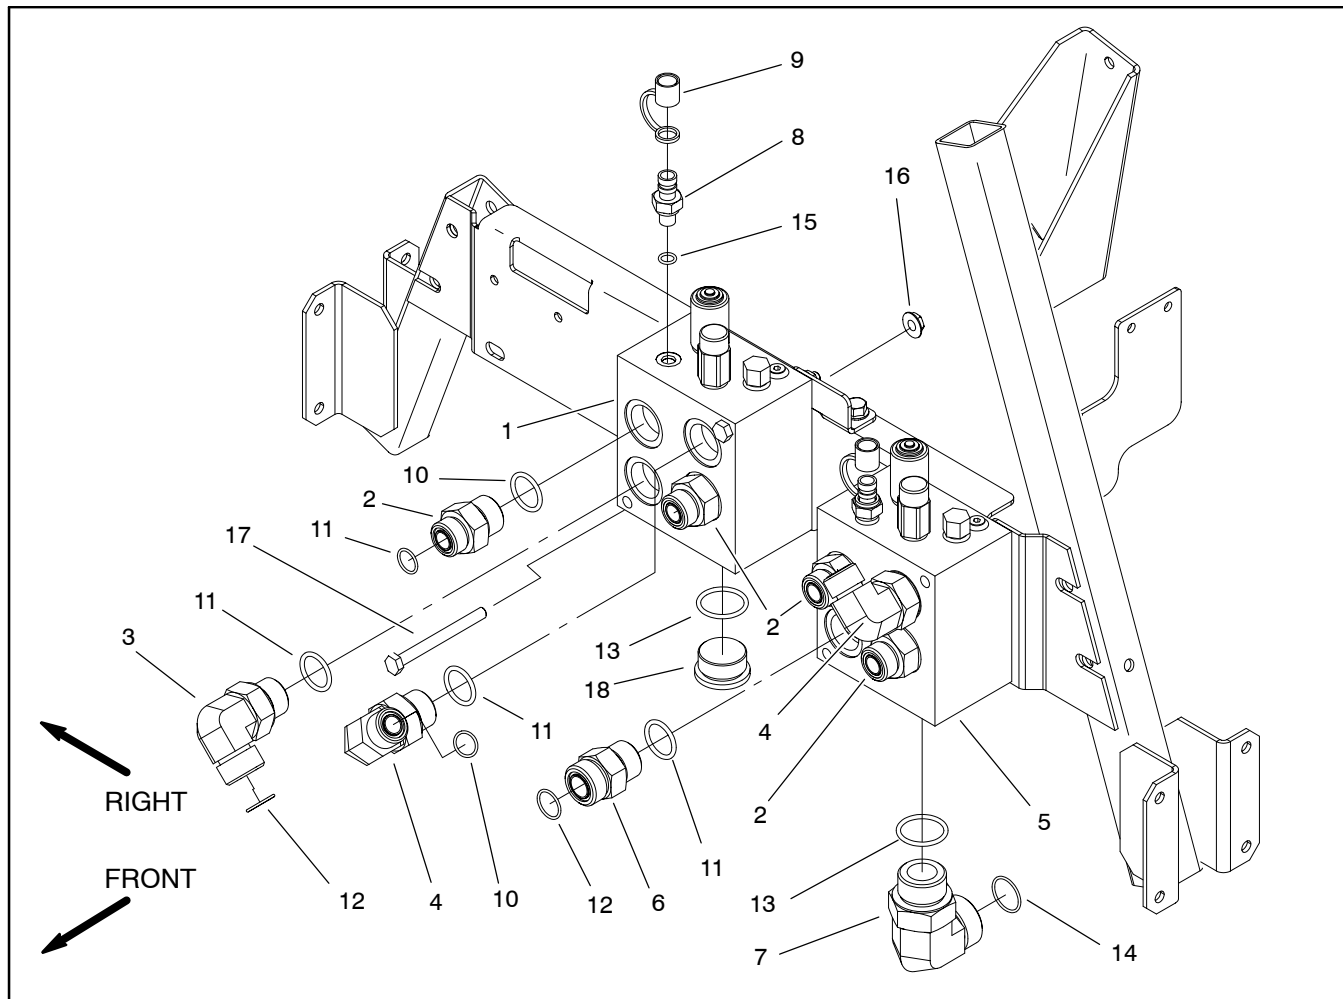

Figure 69
4. Remove hydraulic manifold from the frame using Figure 69 as guide.
1. Install hydraulic manifold to the frame using Figure 69 as guide.